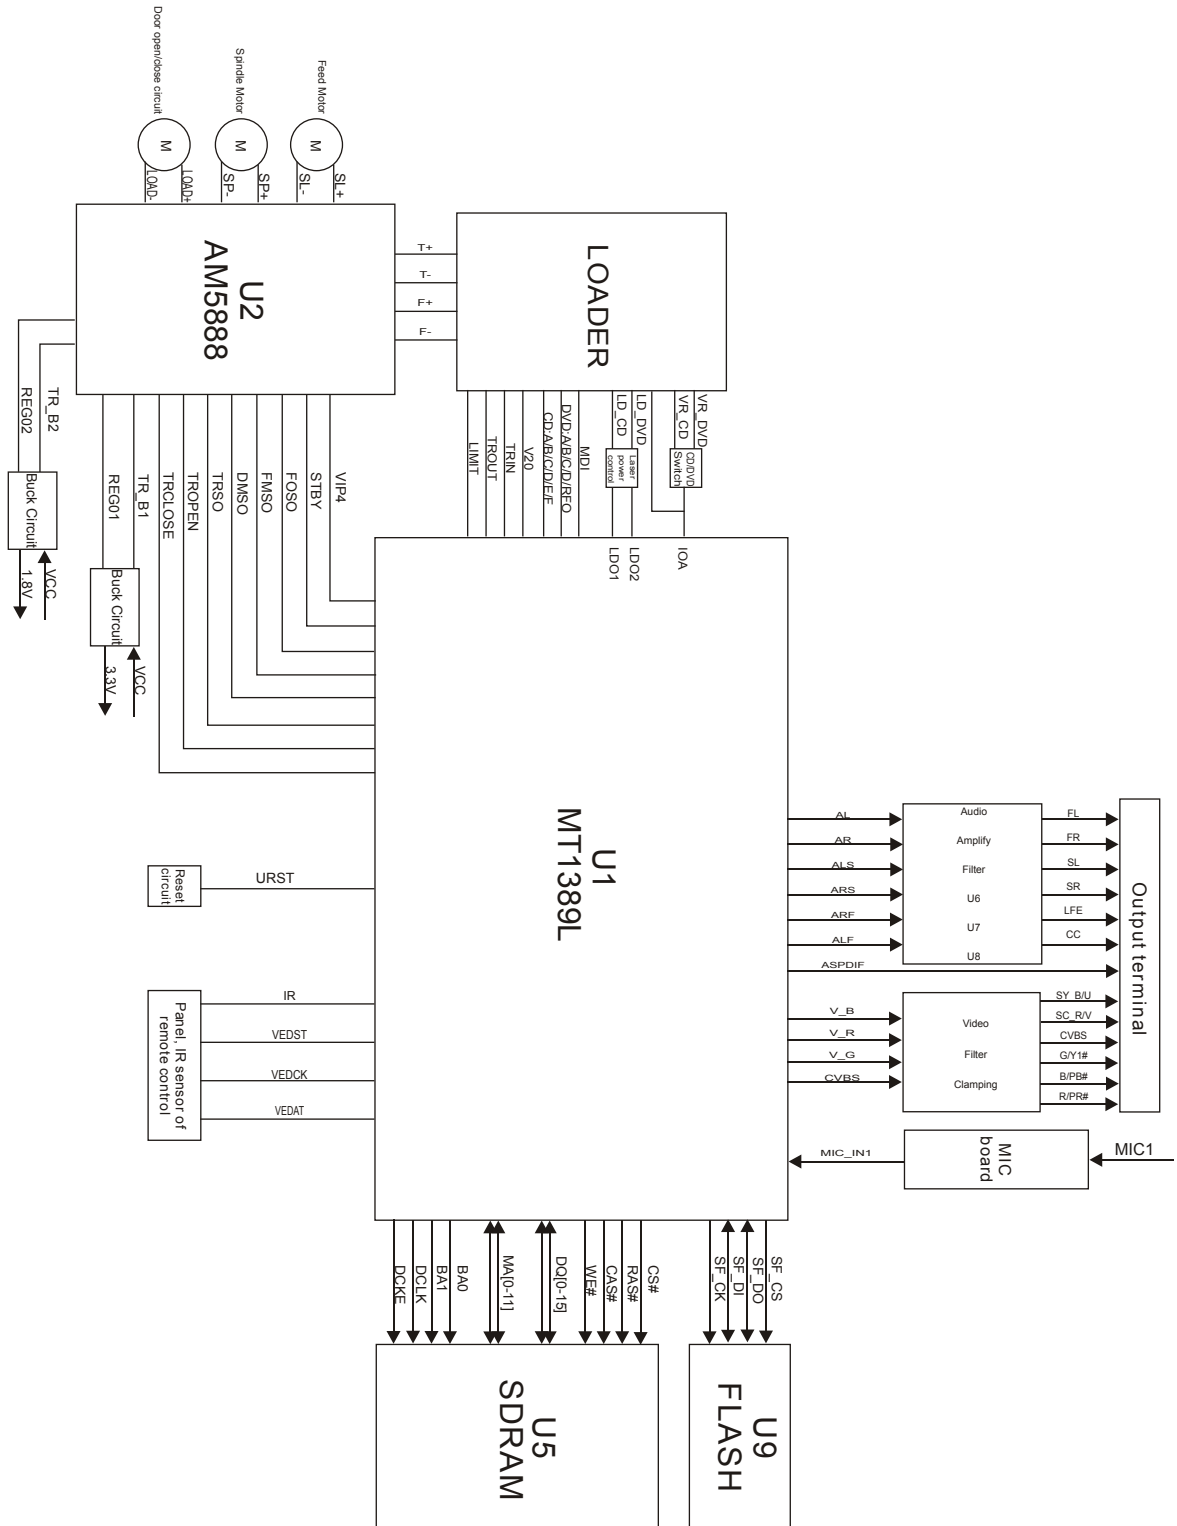

Figure 3.2.1 Block diagram of DV214&216SI(RU)
Block diagram for DV214&216SI(RU) player is shown in figure 3.2.1.